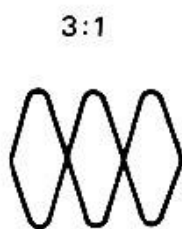

FIGURE 2
7. Using a non-conductive alignment tool, adjust the oscillator's trimmer capacitor until the oscilloscope reproduces the pattern illustrated in Figure 2. Adjust the capacitor until the pattern remains as nearly stationary as possible.